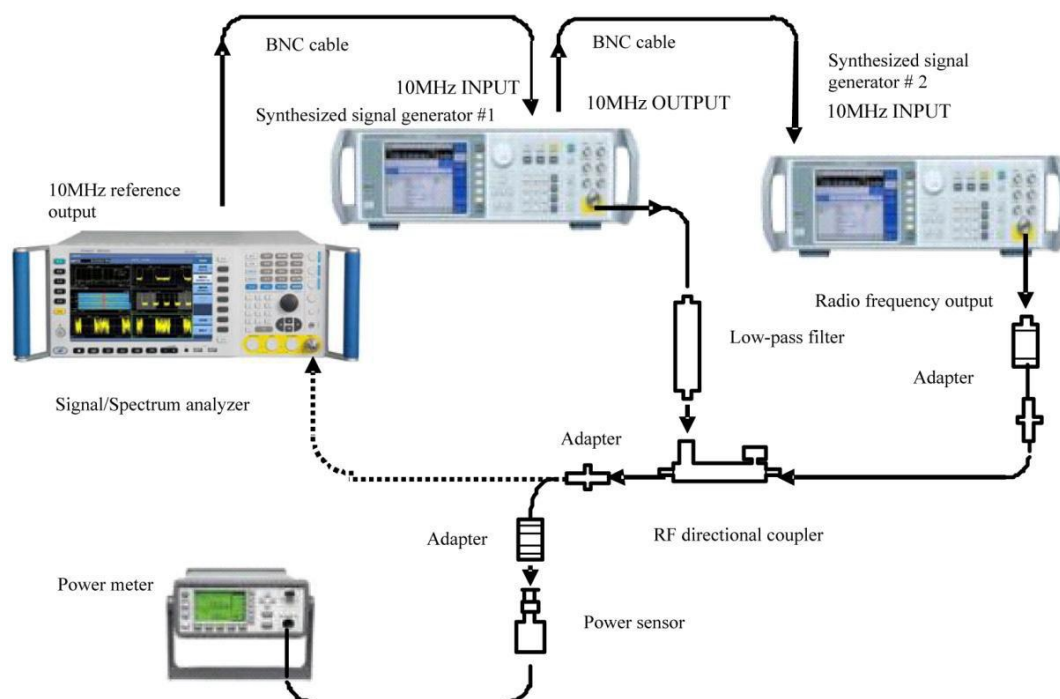

Fig. 8.16 Schematic diagram of TOI distortion test (10 MHz - 4 GHz)
2) Connect the instrument according to solid lines in Fig. 8.16.